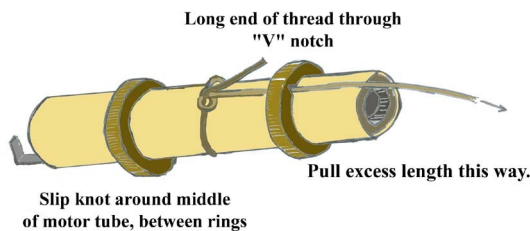

Figure 2
- **Step 2** Assemble the EM-710 following the Semroc assembly sheet but without glue, using the "V"-notched ring as the forward ring. The flat notches should align over the motor hook. Study Fig. 2. Form a slip-knot loop at one end of the Kevlar thread, then pull this loop tight around the mid-point of the mount. Slip the loose end of the thread through the "V" notch, and slide the loop up against the rear of the forward ring, pulling the excess thread through the notch. Now glue this motor mount assembly together and set aside to dry.